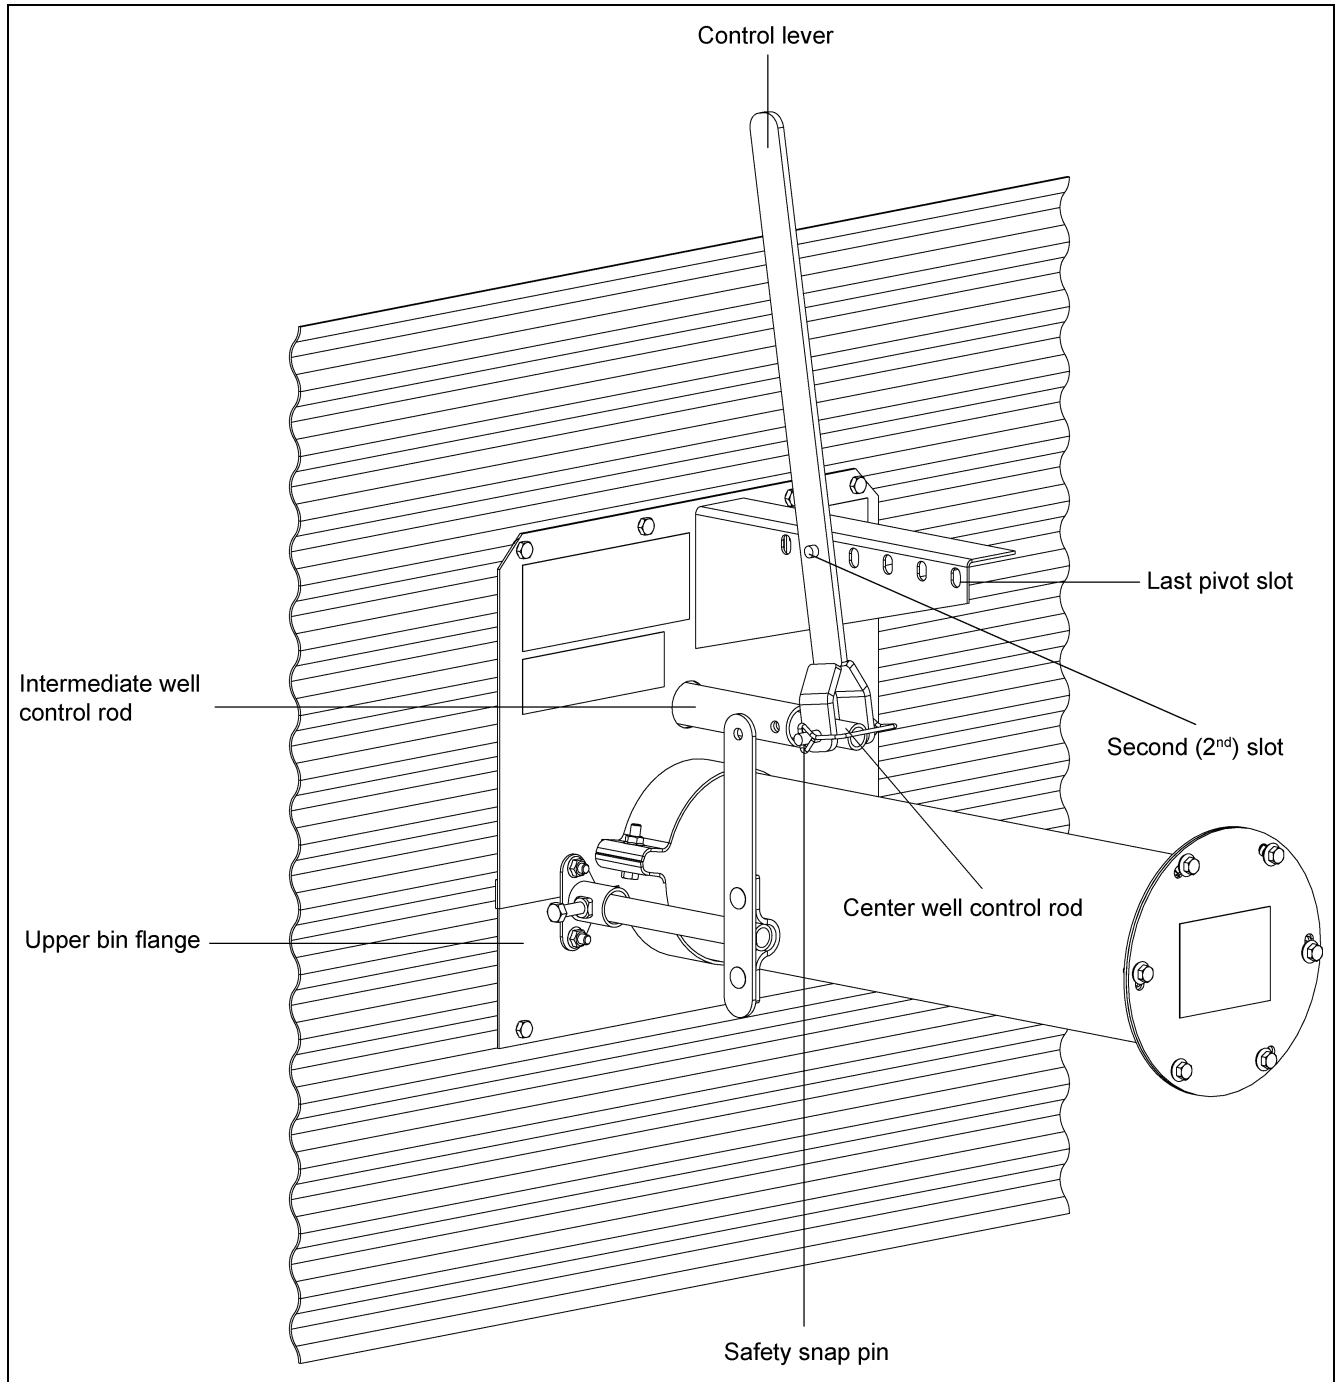
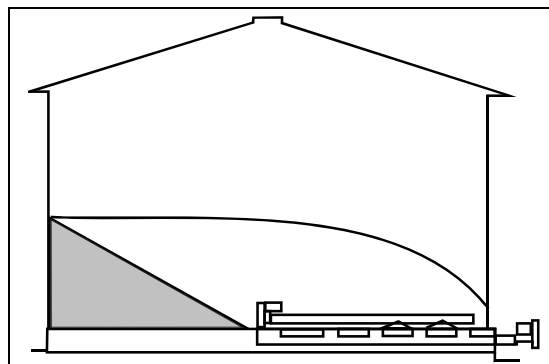

Figure 6A
Figure 6D
2. The safety snap pin should be inserted through the center well control rod and the control lever. Make sure it has NOT been inserted through the intermediate well control rod. (See Figure 6A on Page 43.)
3. Place control lever in the second slot and pull lever to open gradually until the desired flow is established. (See Figure 6A on Page 43.) It should not be necessary to open the gate more than 3" to 6".
- Gradually open gates using the middle pivot slot until the desired flow of grain is reached. You should not open the gates more than 2" to 4". If gates need to be opened further, use the last slot for more leverage. (See Figure 6A on Page 43.) The remaining grain should look similar to Figure 6D.
6. Gradually open the gates until the desired flow of grain is reached. You should not open the gate more than 2" to 4". The remaining grain should look like Figure 6D on Page 44.